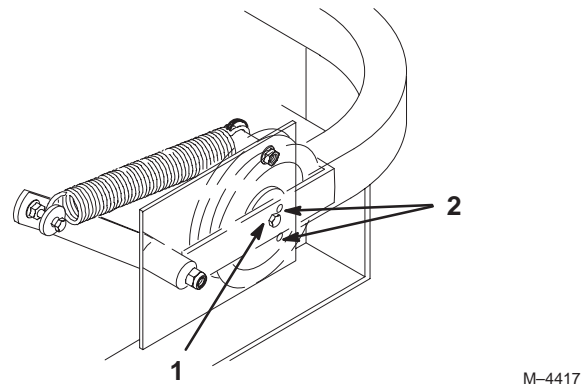

Figure 67
6. Check belt tension. The center bolt of spring loaded idler must be between the two alignment holes in left support plate (Fig 67).
Check position of center bolt in a High Height of Cut. The center bolt must be at or above the lower adjustment hole (Fig 67).
8. Check belt tension again. The center bolt of spring loaded idler must be between the two alignment holes in left support plate (Fig 67). Adjust, if necessary, and tighten all hardware securely.